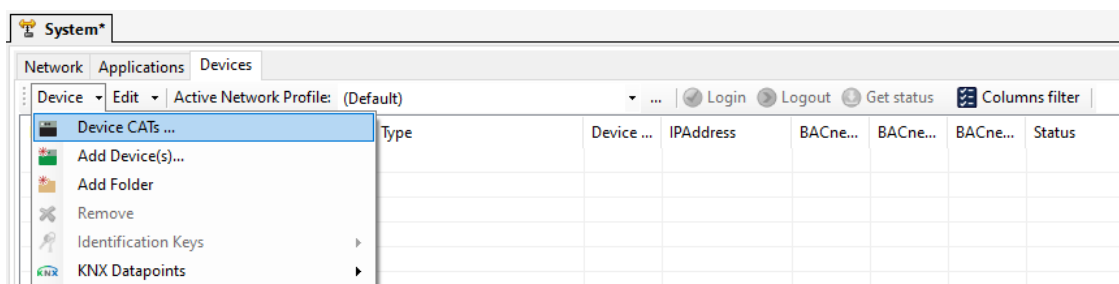

Figure 62: Create device resources in the system.
20. Select the **Devices** tab. Then click on the **Device** dropdown and choose **Device CATs...** in order to create the device resources (see Figure 62).